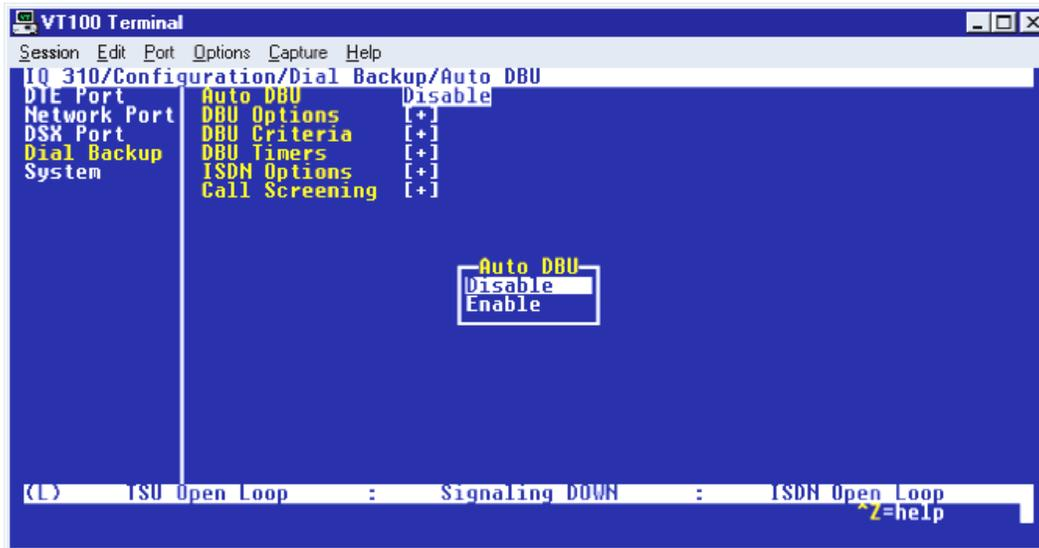

Figure 4. Auto DBU Selections
3. Use the right arrow key to select **AUTO DBU**; then press **<ENTER>**. The screen shown in Figure 4 will appear.